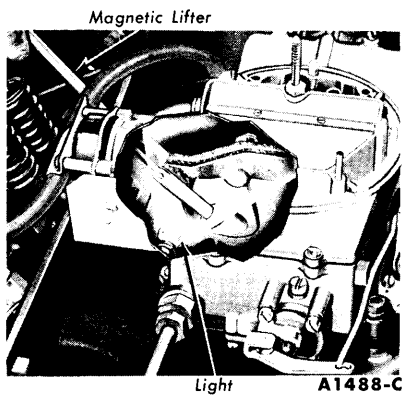

FIG. 37—Hydraulic Valve Lifter Removal—Intake Manifold Installed
5. Position an inspection light through a push rod opening and into the valve push rod valley (Fig. 37). Remove the valve lifters or tappets with a magnet through the push rod openings. In some cases it will be necessary to transfer the lifter or tappet over to an adjoining push rod opening in order to remove it. Place the lifters or tappets in a rack so that they can be installed in their original positions.
2. Position an inspection light through a push rod opening and into the valve push rod valley (Fig. 37). Remove the valve lifters with a magnet through the push rod openings. In some cases, it will be necessary to transfer the lifter over to an adjoining push rod opening in order to remove it. Place the lifters in a rack so that they can be installed in their original positions.
3. Install the push rods. Install the new (or cleaned) hydraulic valve lifters through the push rod openings with a magnet (Fig. 37).